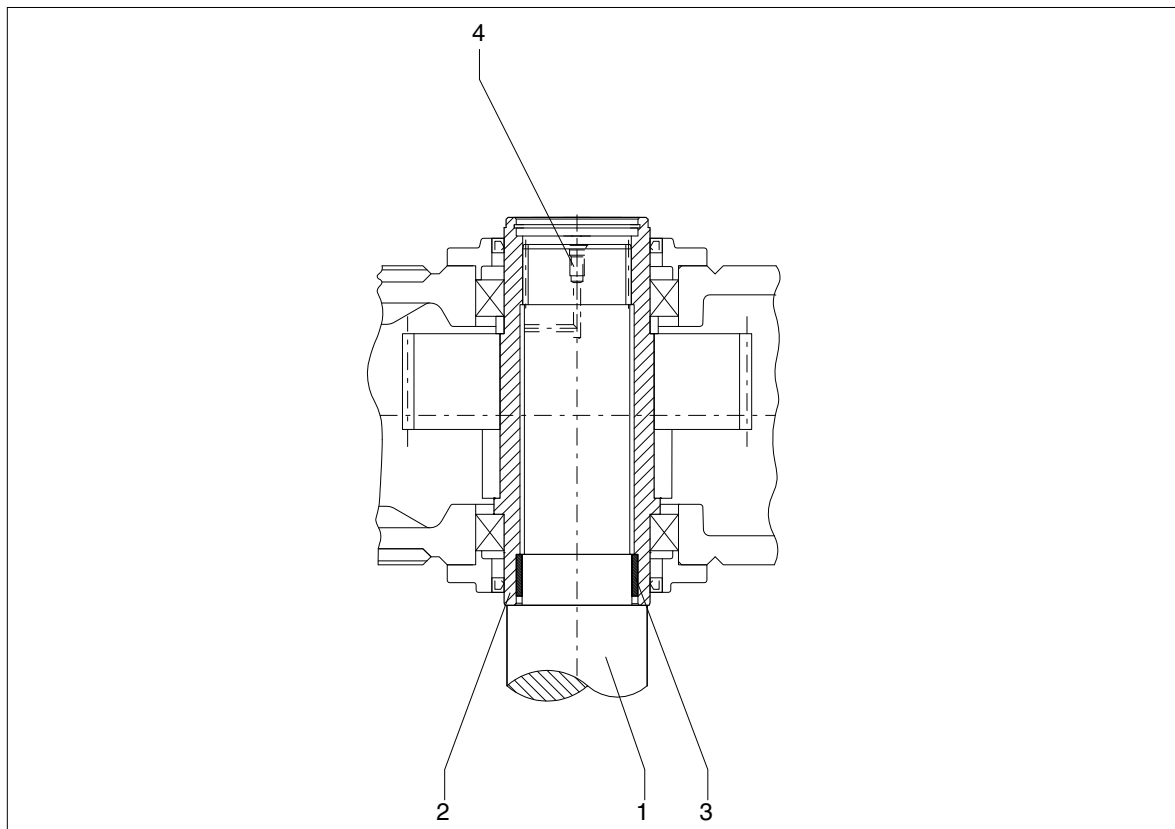

Fig. 59: Hollow shaft with splines, preparation
To facilitate demounting (see also item 6.6.3), we recommend providing a connection for pressure oil on the end of the driven-machine shaft end, which is drilled through to the hollow-shaft recess (see figure 59). This connection may also be used for supplying rust-releasing agent.